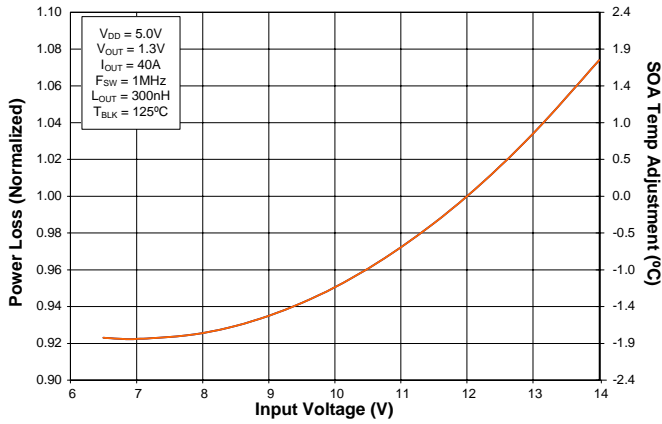

Figure 3 Normalized Power Loss vs. Input Voltage
| (Figure 3) | Normalized power loss for input voltage $\approx$ 0.95    |
- (Figure 3) SOA temperature adjustment for input voltage  $\approx -1.2^{\circ}\text{C}$